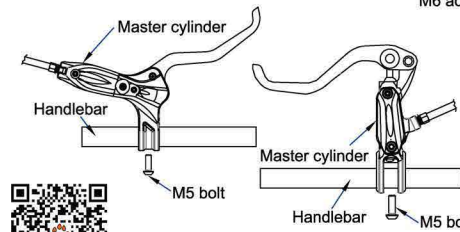

FIG.1
- 2-1 Mounting master cylinder/brake lever onto handlebar using a Torx T25 wrench with a M5 bolt. Before tightening, adjust its angle and position. Tightening torque:4-6Nm(35-53 in. lbs) (as shown in Figure 1)